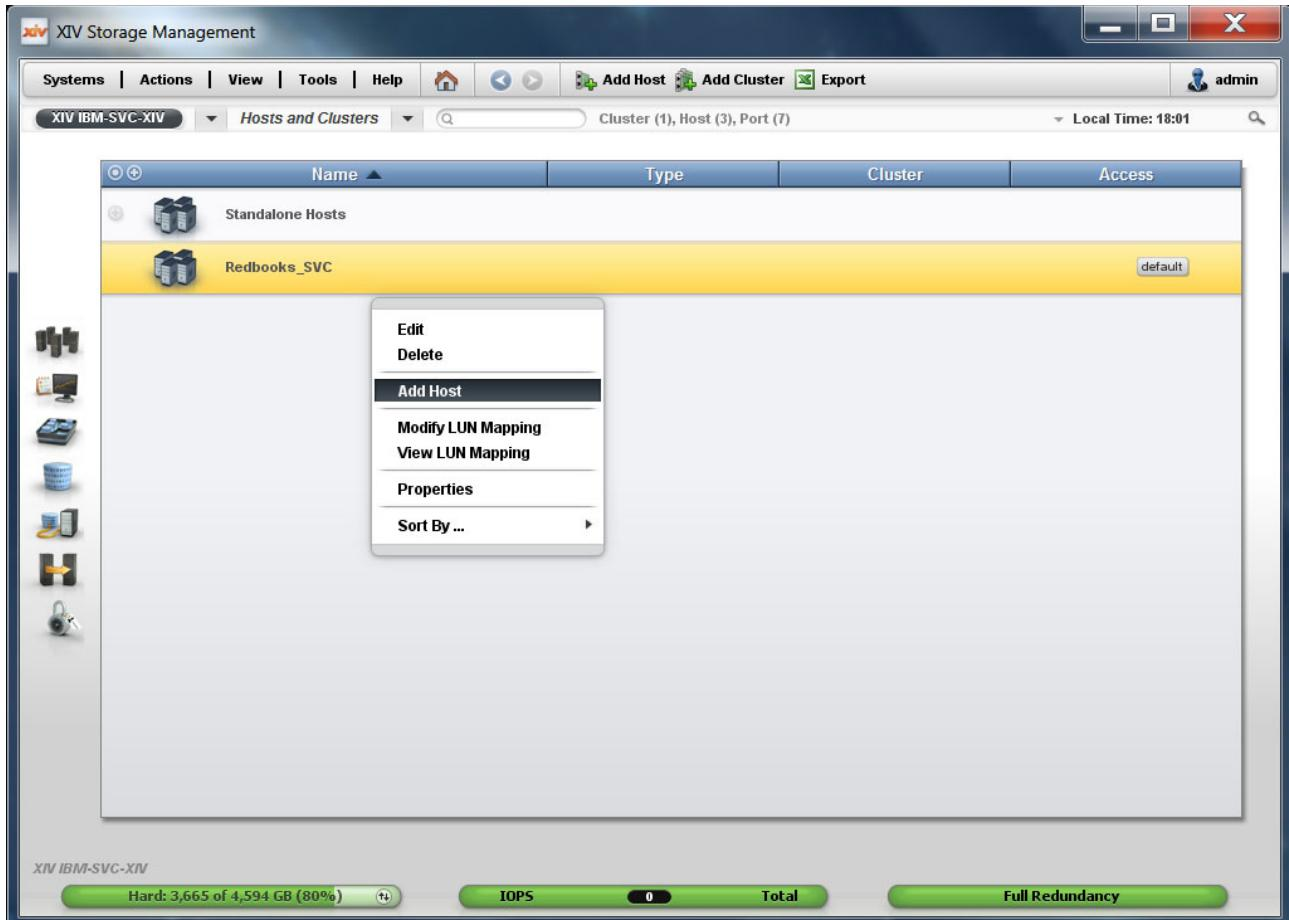

Figure 13-6 Adding a host to the cluster
4. To add a node to the cluster, select the cluster in the **Hosts and Clusters** pane, right-click, and select **Add Host** (Figure 13-6).